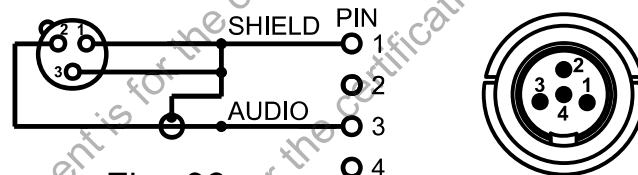

Fig. 39
3. Dynamic Microphone. Fig. 39